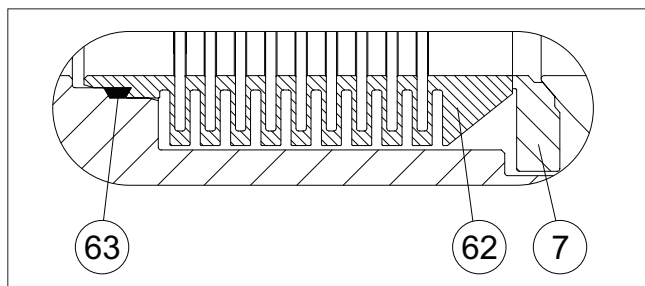

Fig. 15 F seat
- Place the back seal (63) into the bellows (62). See Figure 15.
- Place the bellows and seat (7) into the body counterbore.